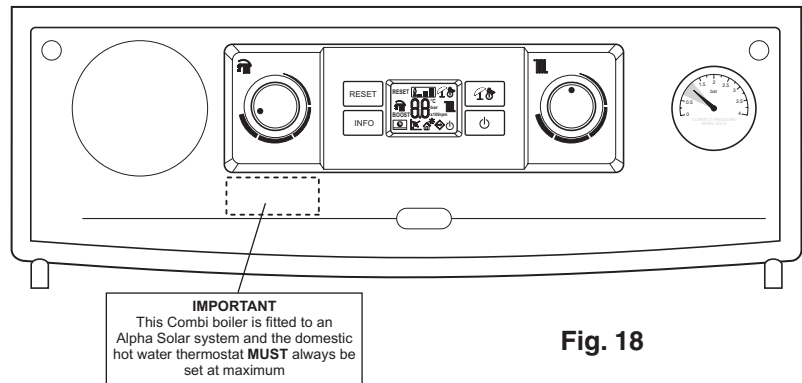

Fig. 18
4. A self adhesive label is supplied with the cylinder. This label **must** be located adjacent to the domestic hot water thermostat knob which must be set to max. as shown in Fig. 18. This will ensure that the hot water temperature from the boiler will be approximately 60°C.
4. How important it is for the combination boiler hot water thermostat to be left at the maximum position (No. 9) and that it is the purpose of the label (Fig. 18) to maintain this and that the label must not be removed.